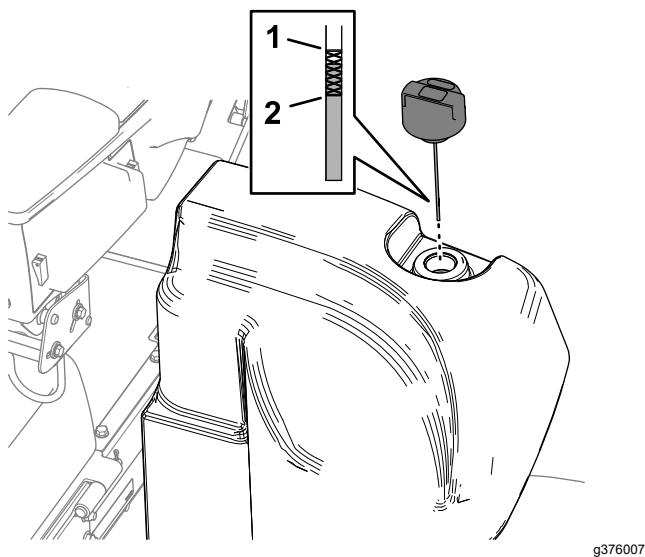

Figure 142
2. Clean the area around the filler neck and the cap of the hydraulic tank (Figure 142).